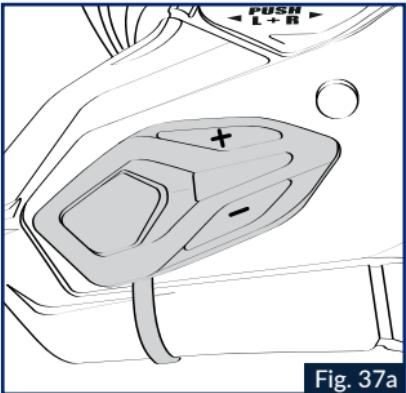

Fig. 37a
8. Affix the main keypad to the defined location (Fig. 37a), using the double-sided tape provided on the keypad, insert the flat cable between the shell and the polystyrene cheek piece to the left of the clip lining (red part) as shown in Fig. 37b.